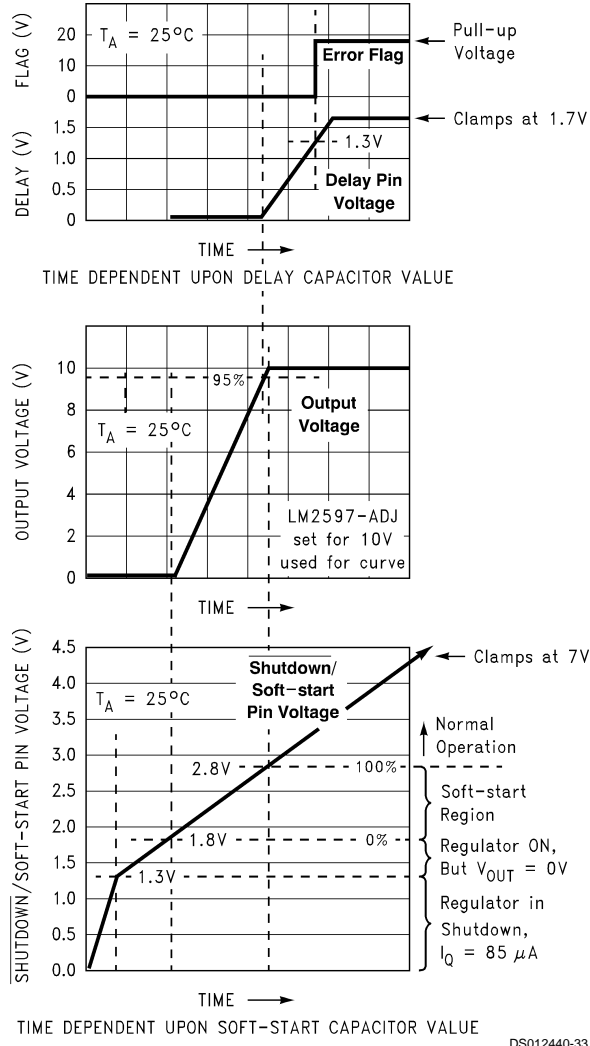
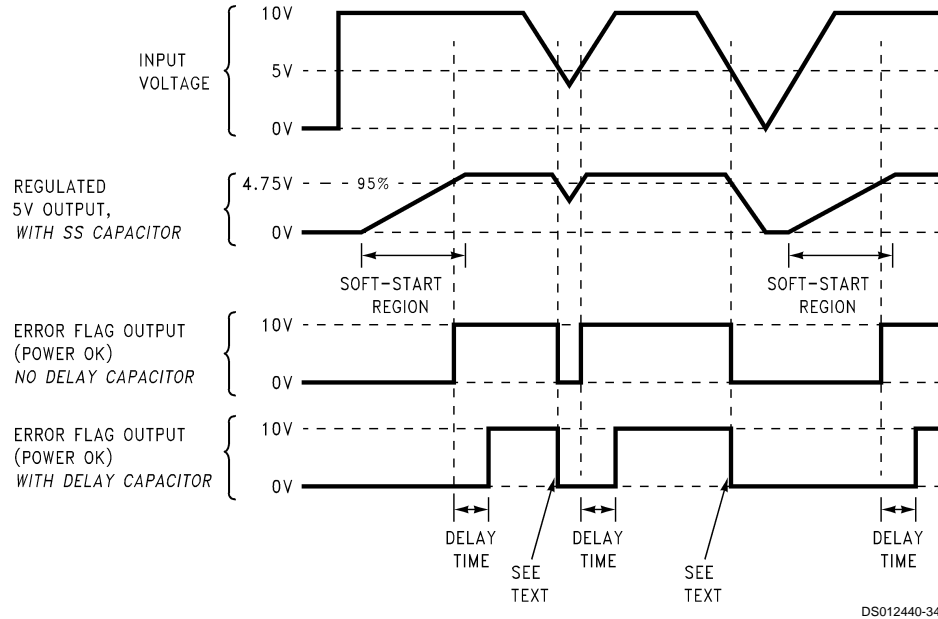

FIGURE 13. Soft-start, Delay, Error, Output
FIGURE 14. Timing Diagram for 5V Output
C_{SS} —A capacitor on this pin provides the regulator with a Soft-start feature (slow start-up). When the DC input voltage is first applied to the regulator, or when the \overline{SD} /Soft-start pin is allowed to go high, a constant current (approximately $5\ \mu A$) begins charging this capacitor). As the capacitor voltage rises, the regulator goes through four operating regions (See the bottom curve in *Figure 13*).
3. Soft-start Region. When the \overline{SD} /SS pin voltage is between 1.8V and 2.8V (@ $25^\circ C$), the regulator is in a Soft-start condition. The switch (Pin 8) duty cycle initially starts out very low, with narrow pulses and gradually get wider as the capacitor \overline{SD} /SS pin ramps up towards 2.8V. As the duty cycle increases, the output voltage also increases at a controlled ramp up. See the center curve in *Figure 13*. The input supply current requirement also starts out at a low level for the narrow pulses and ramp up in a controlled manner. This is a very useful feature in some switcher topologies that require large startup currents (such as the inverting configuration) which can load down the input power supply.
Note: The lower curve shown in *Figure 13* shows the Soft-start region from 0% to 100%. This is not the duty cycle percentage, but the output voltage percentage. Also, the Soft-start voltage range has a negative temperature coefficient associated with it. See the Soft-start curve in the electrical characteristics section.
C_{DELAY} — Provides delay for the error flag output. See the upper curve in *Figure 13*, and also refer to timing diagrams in *Figure 14*. A capacitor on this pin provides a time delay between the time the regulated output voltage (when it is increasing in value) reaches 95% of the nominal output voltage, and the time the error flag output goes high. A 3 μ A constant current from the delay pin charges the delay capacitor resulting in a voltage ramp. When this voltage reaches a threshold of approximately 1.3V, the open collector error flag output (or power OK) goes high. This signal can be used to indicate that the regulated output has reached the correct voltage and has stabilized.